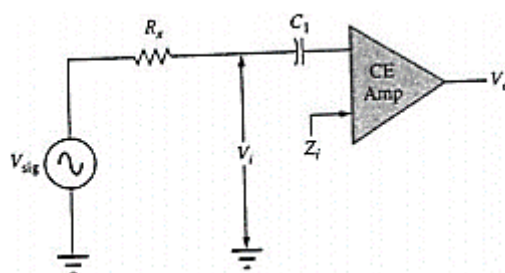

Figure 4: Circuit for determining input impedance
1. To determine the input impedance of this amplifier, connect an input measurement resistor, $R_x=10\text{k}\Omega$, as shown in Figure 4. Apply the AC input signal of 2V_{rms} at frequency of 1 kHz but this time through this known resistance. Measure V_i which is the signal after this resistor R_x input to amplifier. Note down in Table 3.